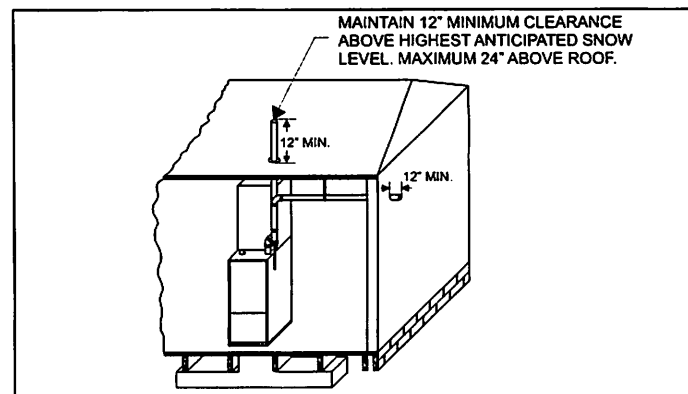

FIGURE 20: Termination Configuration - 1 Pipe
6. A vent drain is required when vent passes through any unconditioned space such as an attic or crawl space in order to prevent the accumulation of excess condensate in the inducer motor during operational cycles. See Figures 20, 21, 22, and 23.
2. **AMBIENT COMBUSTION AIR:** Combustion air is supplied from the area surrounding the furnace through the combustion air pipe in the furnace casing. The combustion air and the vent pipes are not terminated in the same atmospheric zone. Refer to Figures 20 & 28 for vent terminations. Refer to "AIR SOURCE FROM INSIDE THE BUILDING" and "VENT AND SUPPLY AIR SAFETY CHECK" for proper installation.
This type installation will draw the air required for combustion from within the space surrounding the appliance and from areas or rooms adjacent to the space surrounding the appliance. This may be from within the space in a non-confined location or it may be brought into the furnace area from outdoors through permanent openings or ducts. It is not piped directly into the burner box. For downflow models combustion air is brought into the furnace through the unit top panel opening. Do not install a pipe into the combustion air pipe at the top of the furnace. Refer to Figures 20 & 27. If a 3-way transition is provided, the side or bottom openings can also be used for the same purpose.